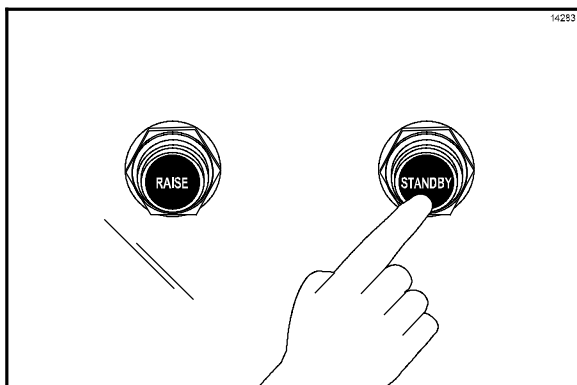

Figure 91
- Press the black STANDBY button to lower the center platen. (See Figure 91.)